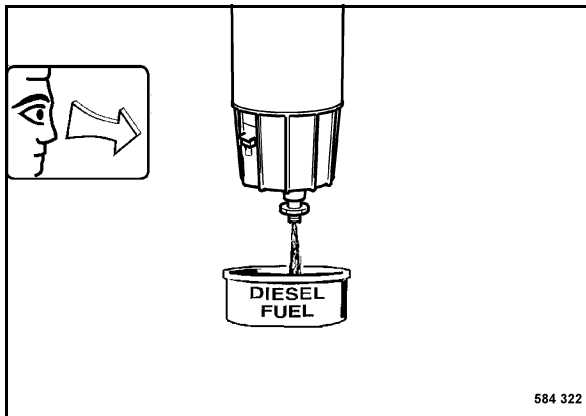

Fig. 142
- Slacken the drain plug (Fig. 142) for a few turns and catch running out fuel / water.